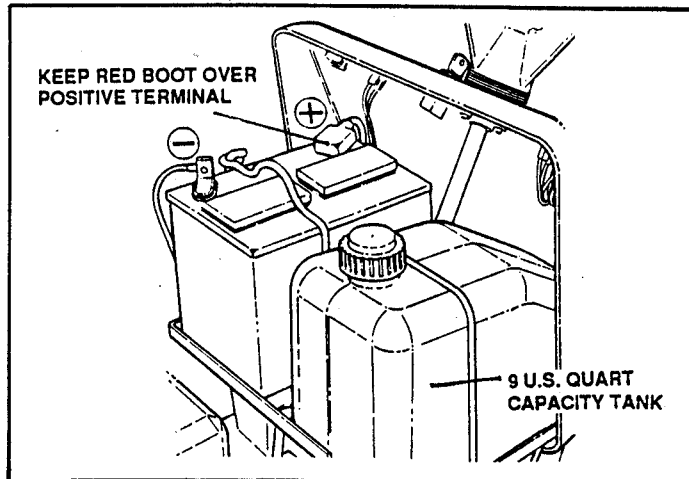

FIGURE 6
- ADD FUEL to tank after pushing the mower outside where fumes can be dissipated. Make sure cap is tightened after refueling. (Refer to engine manual for fuel specifications). See Figure 6.